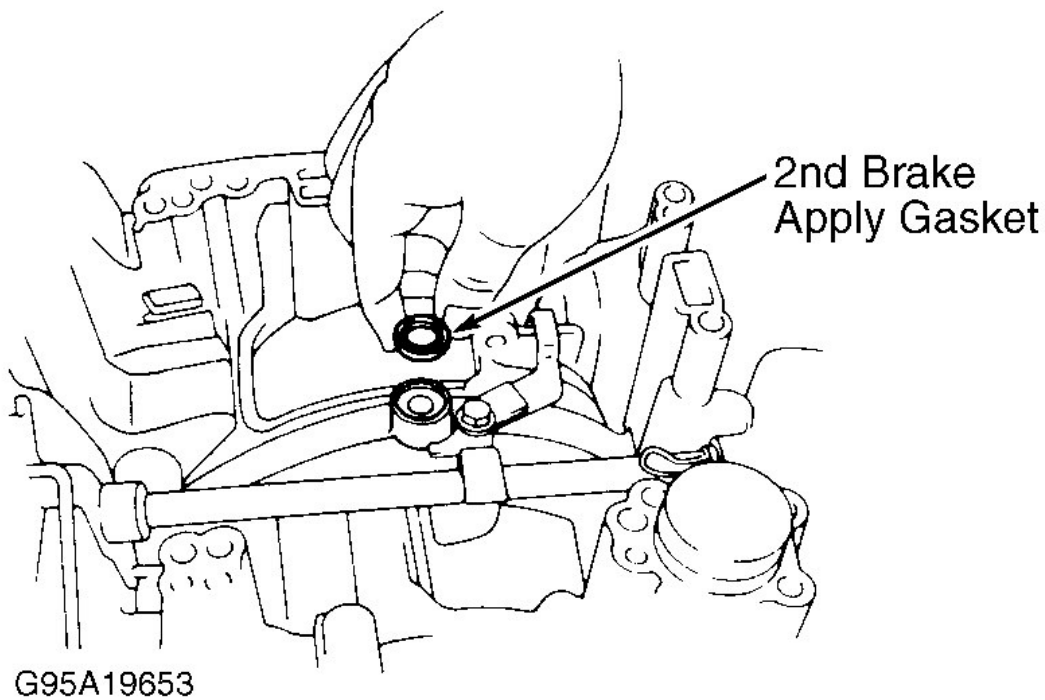
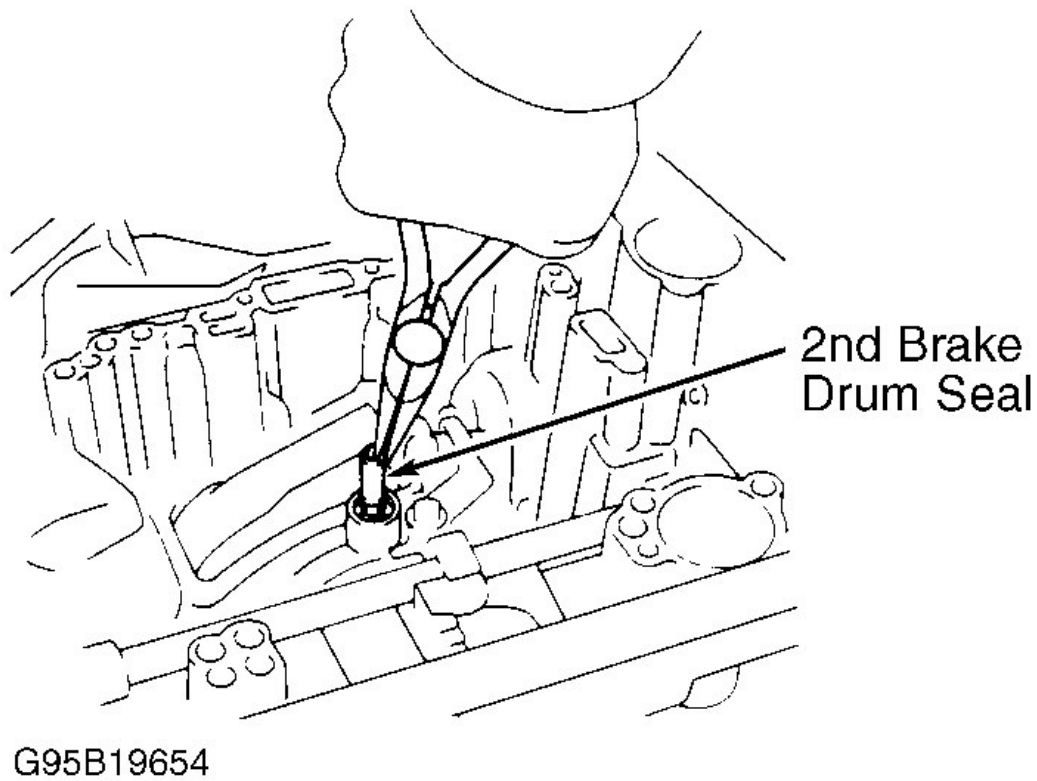

Fig. 9: Removing 2nd Brake Apply Gasket
Fig. 10: Removing 2nd Brake Drum Seal
2. Remove oil pan and gasket. Remove magnet(s) from oil pan. Remove oil strainer (filter). Remove manual detent spring. Disconnect solenoid connectors. Remove valve body assembly. See **VALVE BODY ASSEMBLY** under REMOVAL & INSTALLATION. Remove throttle cable and solenoid sub-harness from transaxle case. Remove check ball body and spring, next to 2nd brake accumulator. Remove 2nd brake apply gasket. Remove 2nd brake drum seal. See **Fig. 9** and **Fig. 10** .